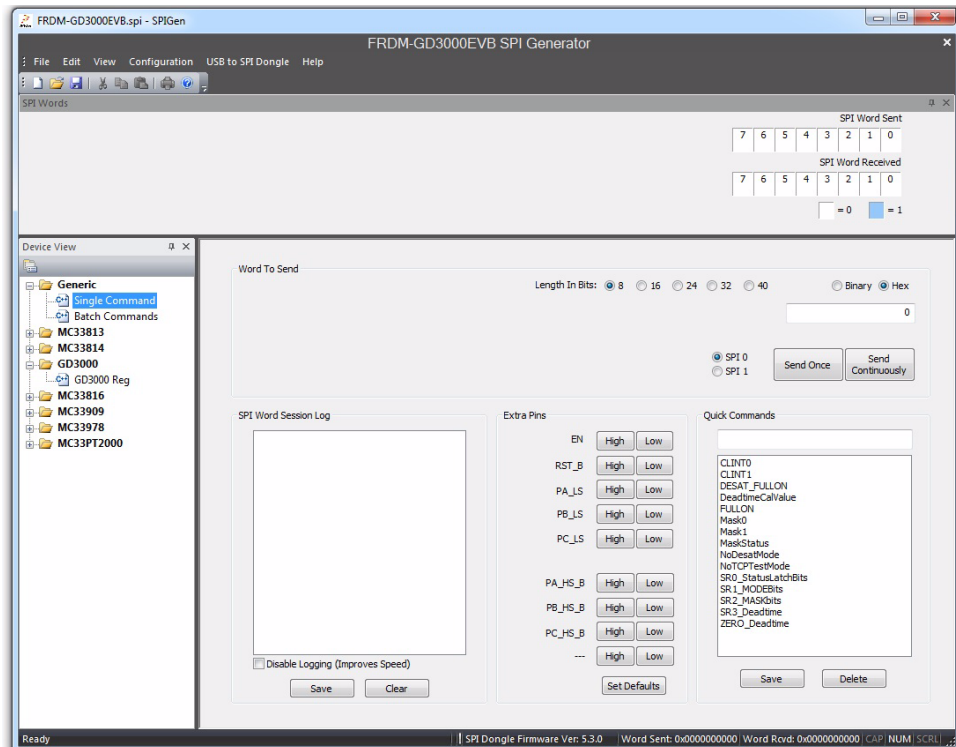

Figure 17. SPIGen single commands
1. To send single commands to the device, click on **Single Command** under **Generic** in the **Device View** panel. See Figure 17.